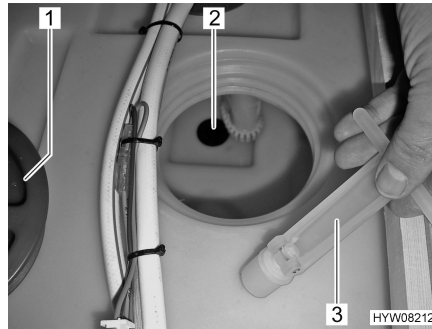

Fig. 70 Water tank, stopper
- Unscrew the cap (Fig. 70,1) on the water tank.
- Put the stopper (Fig. 70,3) in the drainage opening (Fig. 70,2).